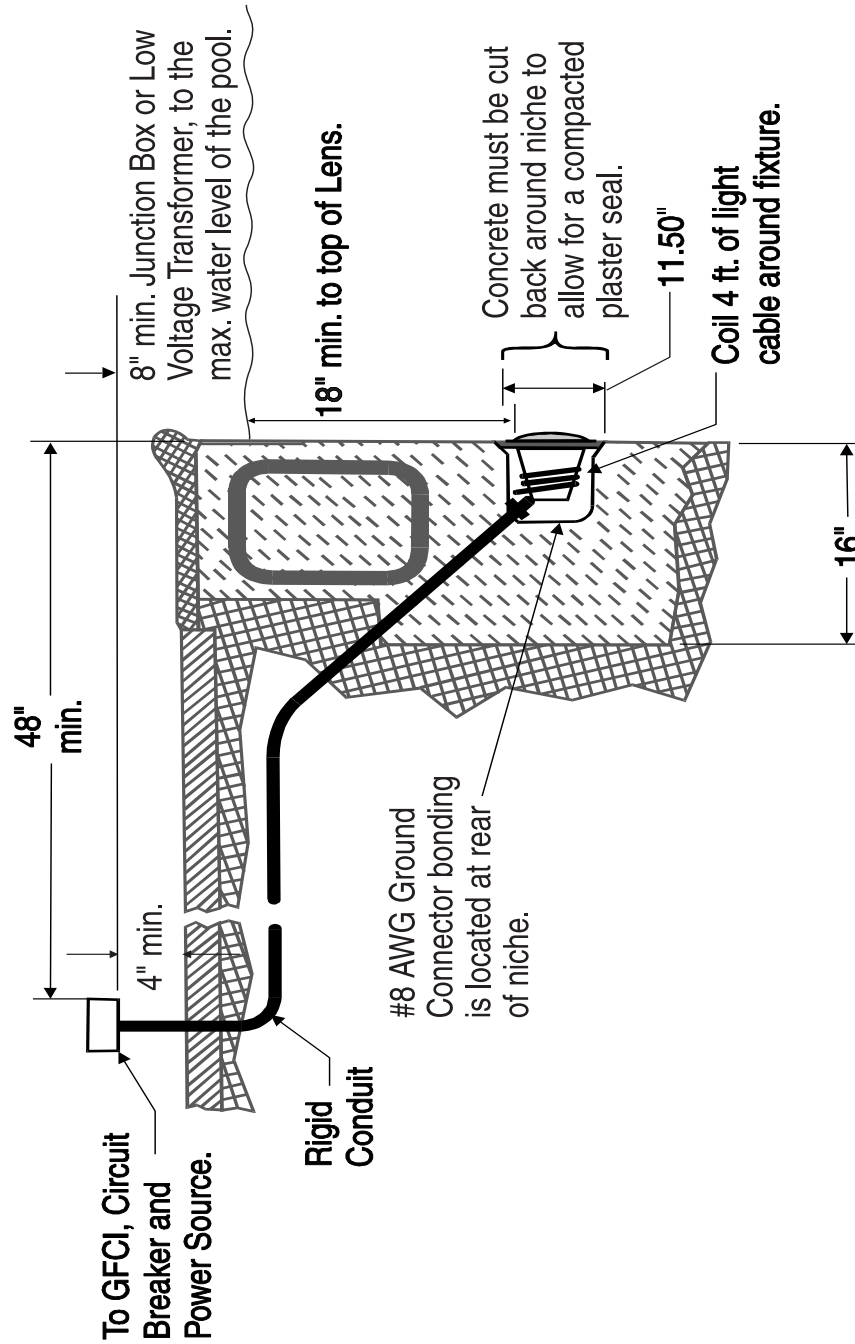

Figure 1.
- The Junction Box (or, for 12 volt models, the low voltage transformer) is located at least 8 inches above the maximum water level of the pool and at least 48 inches from the edge of the pool; see Figure 1.
- The wet niche is properly installed so that the top edge of the underwater light's lens is at least 18 inches below the surface of the water in the pool; see Figure 1. (Not more than 20" depth in Canada.)
- The wet niche is properly electrically bonded and grounded via the No. 8 AWG ground connector located at the rear of the niche; see Figure 1, page 7.
1. Feed cord through conduit to Junction Box, leaving at least four (4) feet of cord at the light fixture to coil around the light; see Figure 1, on page 7. The four (4) feet of cord around the light allows the light to be serviced after the pool is filled with water.
2. Cut the cord at the Junction Box, leaving at least six (6) inches of cord to make connections.
3. Strip back six (6) inches of the outer cord jacket to expose the three insulated wires (be careful not to damage the insulation on the three (3) inner wires).
4. Connect all three (3) wires to the corresponding circuit wires in the Junction Box and secure the Junction Box cover in place.
5. Install the IntelliBrite light assembly into the niche and tighten the special bronze pilot screw (see Figure 1, on page 7).
- The Junction Box (or, for **12 volt models**, the low voltage transformer) is located at least eight (8) inches above ground level and at least 48 inches from the edge of the pool; see Figure 1 on page 7.
- The light fixture and all metal items within five (5) feet of the pool are properly electrically bonded.
- The wet niche is properly installed so that the top edge of the underwater light's lens is at least 18 inches below the surface of the water in the pool; see Figure 1 on page 7.
- The wet niche is properly electrically bonded and grounded via the No. 8 AWG ground connector located at the rear of the niche; see Figure 1.
3. With the light assembly on the pool deck, cut the light cord leaving at least size (6) inches of cord to connect to the cord on the replacement light. Discard the light assembly.
4. Pull the existing cord out of the niche up onto the deck. Strip six (6) inches of the outer cord jacket from the cord to expose the three insulated wires.
7. Strip back six (6) inches of the outer new light cord jacket to expose the three insulated wires (be careful not to damage the insulation on the three (3) inner wires).
8. Connect all three (3) wires to the corresponding circuit wires in the Junction Box and secure the Junction Box cover in place.
9. Leave at least four (4) feet of cord to coil around the new IntelliBrite light fixture (see Figure 1 on page 7). This four (4) feet of cord coiled around the light allows the light to be serviced.